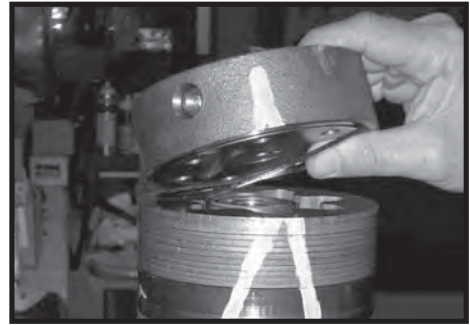

Figure 6
4. Remove end cover assembly (2) and seal ring (4). Discard seal ring. SEE FIGURE 6.